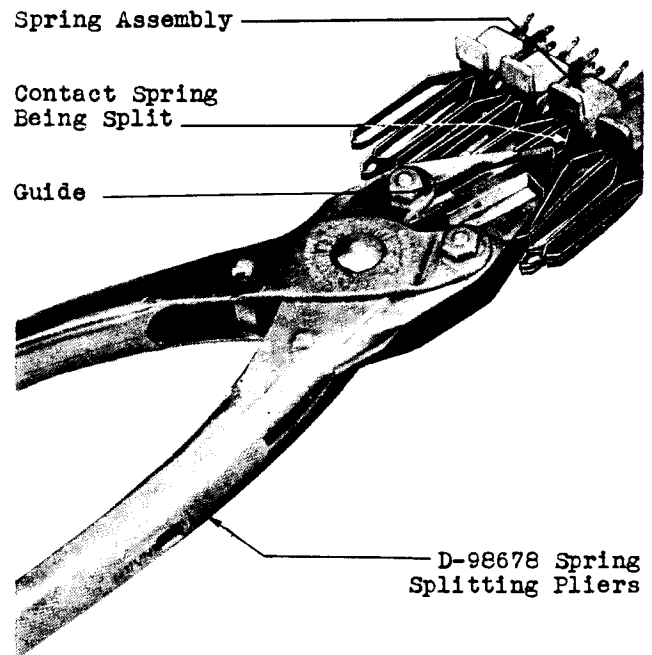

Fig. 2 - Method of Splitting Contact Springs
**3.04** With the jaws of the D-98678 pliers completely open, with a sidewise motion move one spring away from its adjacent spring by means of the tip of the guide of the pliers. Make sure that the tip of the spring to be split rests on that side of the guide which forms one side of the hole in the end of the pliers and start the spring into the hole. Do not force the spring into the pliers if resistance to its entrance is felt because this is an indication that the pliers are being held at an incorrect angle or that an adjacent spring is interfering with the pliers. Hold the pliers horizontally and carefully push them towards the back of the sequence switch frame as far as possible as shown in Fig. 2 without forcing and until the tip of the spring bottoms. Grip the pliers firmly near the outer end of the handles taking care not to allow them to move away from the sequence switch. Hold the pliers horizontally to avoid twisting the spring and take care not to apply upward or downward pressure against the spring. Then press the pliers firmly together. Open the pliers and remove them from the spring.